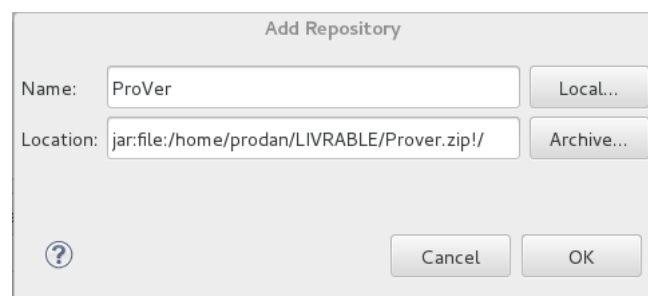

**Figure 24 Prover update site installation**
3. Select the plug-in Prover and Click on Next. Click on Next once again for the installation details. (Figure 24 Prover update site installation)